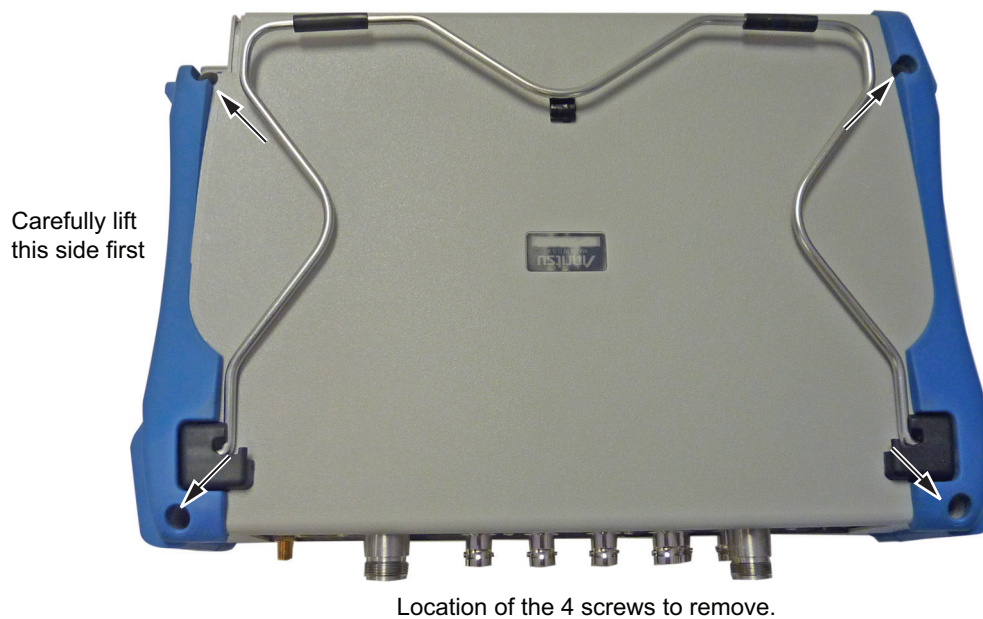

Figure 7-2. Remove the Four Screws
5. Use a Phillips screwdriver to remove the four screws securing the two halves of the BTS Master case together (Figure 7-2).